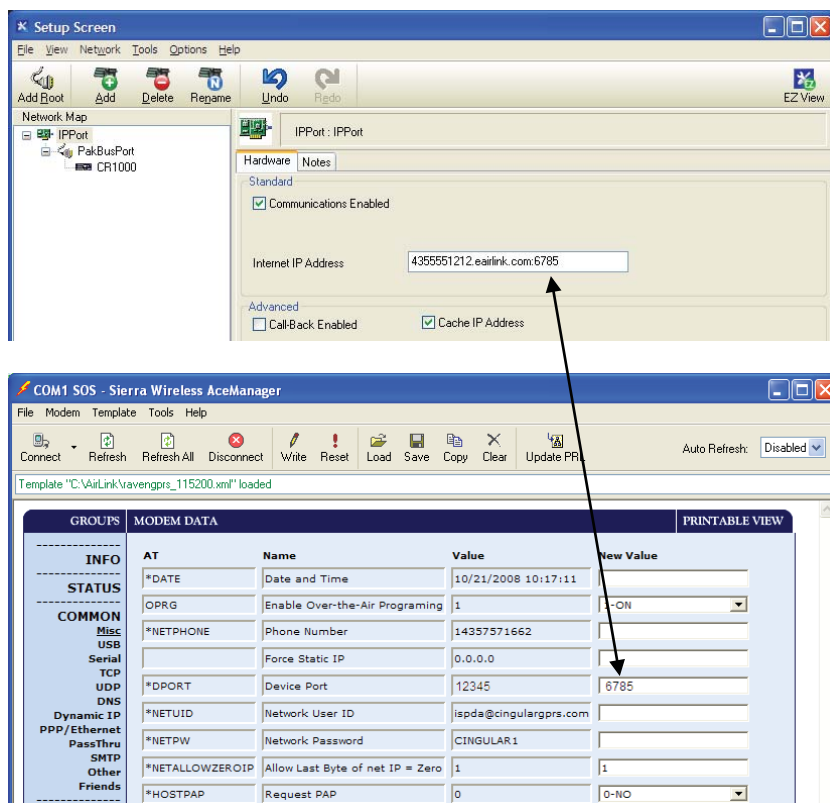

FIGURE 8-1. Device Port Configuration
- a. Make sure the port number at the end of the IP address matches the port number of the Raven (e.g. 6785, see Figure 8-1).